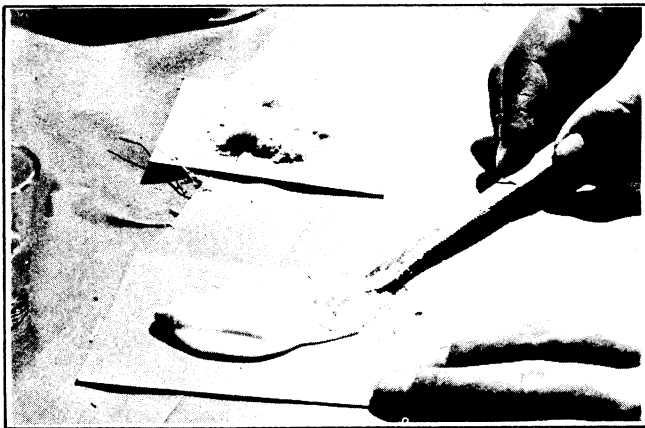

Figure 2-67. Mixing Gel Coat and Glass Fibers
3. A small amount of gel coat, the same color as the finish should be placed in a small can lid or on a piece of cardboard. Use just enough to fill the damaged area. If damage has penetrated through to fiberglass material, an equal amount of fibers, which can be taken from glass mat and shredded into small fibers, should be mixed with the gel coat - using a putty knife or flat stick. Add three drops of catalyst per teaspoon of gel coat using an eye dropper. Be sure to mix the catalyst thoroughly for maximum working time. Maximum working time (pot life) will be about 15 to 20 minutes at which time it begins to "gel." See Figure 2-67.